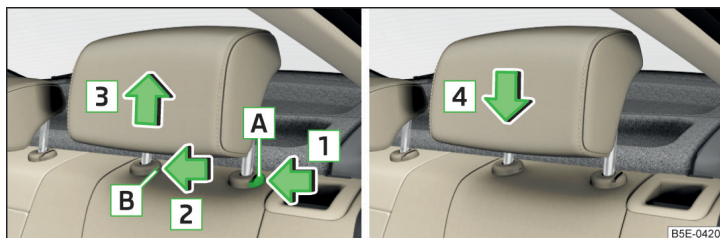

Fig. 74 Removing/inserting the rear headrests
- › Hold the locking button **A** in the direction of arrow **1**, at the same time using a flat screwdriver with a max. width of 5 mm to press the locking button in the opening **B** in the direction of arrow **2** and pull out the rest in the direction of arrow **3** » Fig. 74.